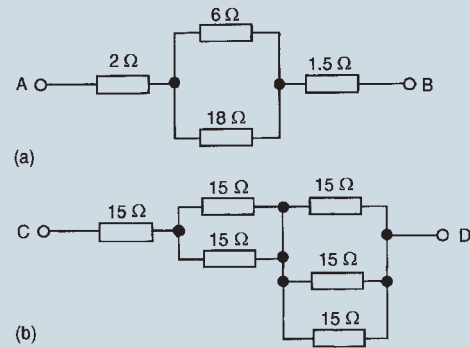

Figure 7.30
- Find the total resistance between terminals A and B of the circuit shown in Fig. 7.30(a).
- Find the equivalent resistance between terminals C and D of the circuit shown in Fig. 7.30(b).